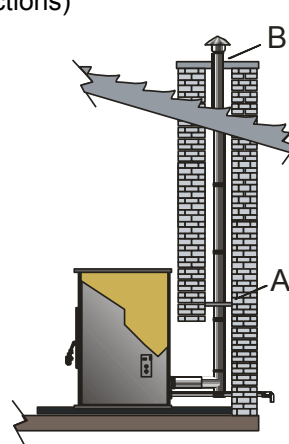

Figure 7
1. Must be an approved 3" or 4" Diameter Type "PL" multi-fuel vent, vented to the outside (fig. 7) or connect the vent to a factory built type "A" chimney using an adaptor.
PELLET VENT TERMINATION: (Figures 7 & 8)